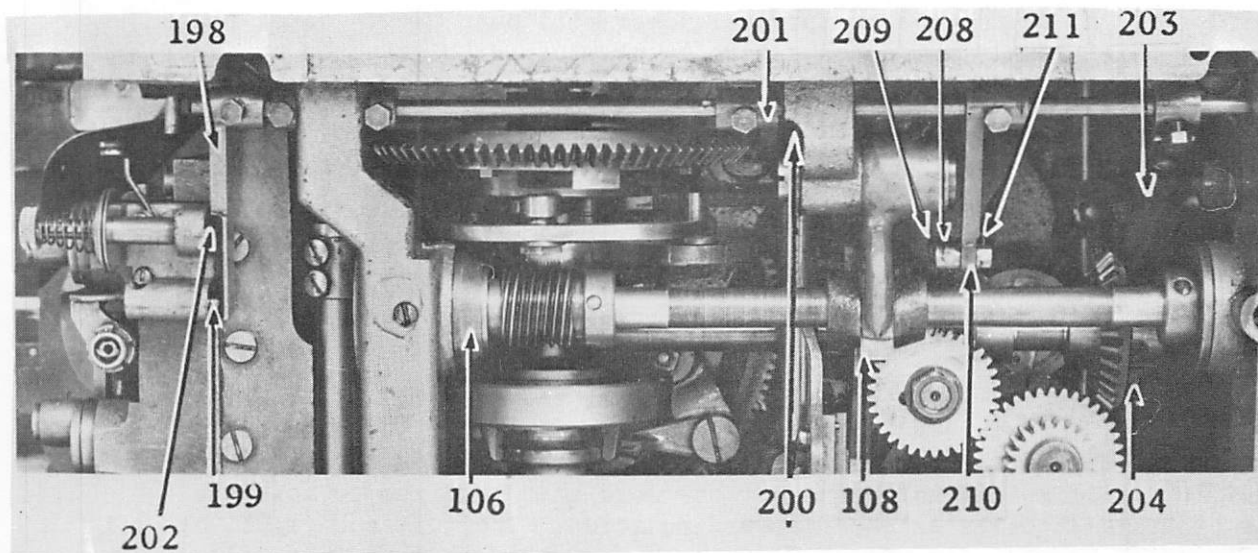

Fig. 41 Adjustment of the Automatic Thread Tension
(See Fig. 41)
To set the needle thread tension release delaying mechanism, push the releaser rod (205, Fig. 3) upward so that the retaining stud (206, Fig. 3) is pressed against the bottom surface of the upper releaser lever bracket (207, Fig. 3). Set upper collar (208, Fig. 41) maintaining a 5/32 inch clearance between collar and intermittent feed driving wheel bracket (209, Fig. 41). Also set the lower collar a distance of 1-1/8 inches below the upper collar (208).
Now pass the releaser rod (205) through the hole provided on the lower releaser lever (210, Fig. 41), then hook one end of spring (211, Fig. 41) to upper collar set screw and the other end to the lower releaser lever (210).
collar (200, Fig. 41) swings the operating lever (201, Fig. 41) inward. Also set the actuating plate (213, Fig. 11) so that the two flat sides on the retaining rod block (214, Fig. 11) is square to the arm shaft when the machine is moved to the second side of the buttonhole, or when the stitch rotating lever is swung forward toward you.